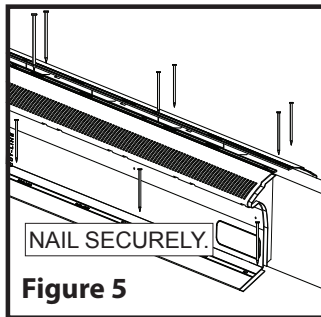
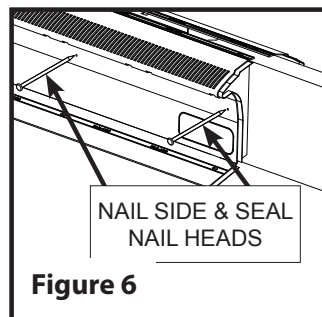

Figure 5
Figure 6
3. Place the TRV-4 against the ridge board and bend the bottom hinged flange to the pitch angle of the roof so it conforms to the roof slope. Nail the TRV-4 vent to the side surface of the ridge board with 1 3/4" minimum nails through the molded nail holes. (See Figure 6) Nail the bottom flange with 3/4" minimum roofing nails using the molded nail holes. (See Figure 5) Nail the top flange with 3/4" minimum roofing nails using the molded nail holes. (See Figure 5)